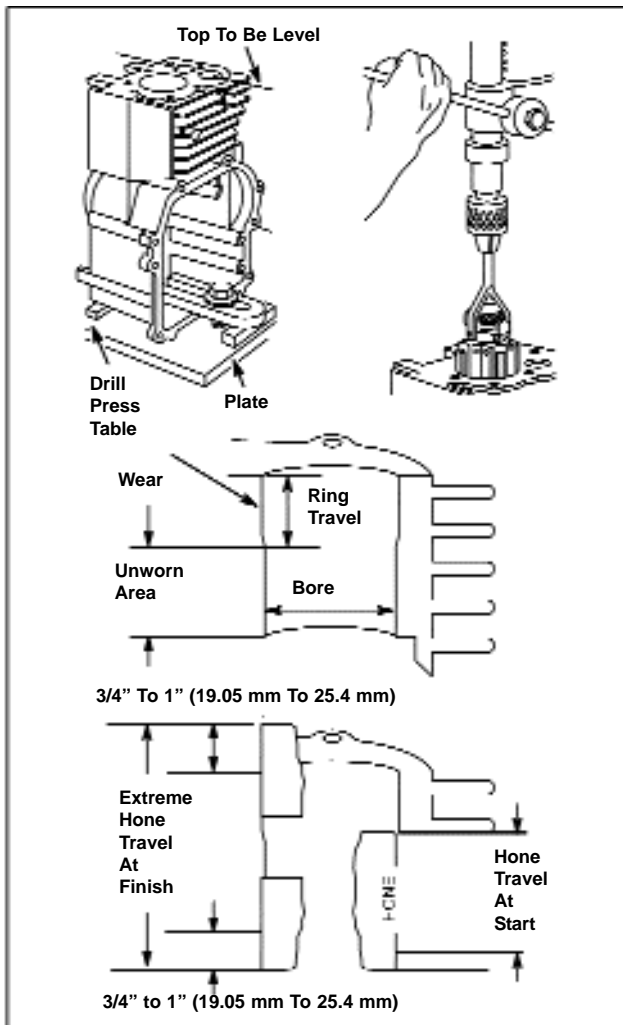

Figure 130 - Honing Set-up, Example
Honing can be done with a portable variable speed 1/2" electric drill or carpenter's brace, but it is easier to use a drill press, Figure 130.
6. Start drill and as hone spins, move it up and down at lower end of cylinder. Figure 130.